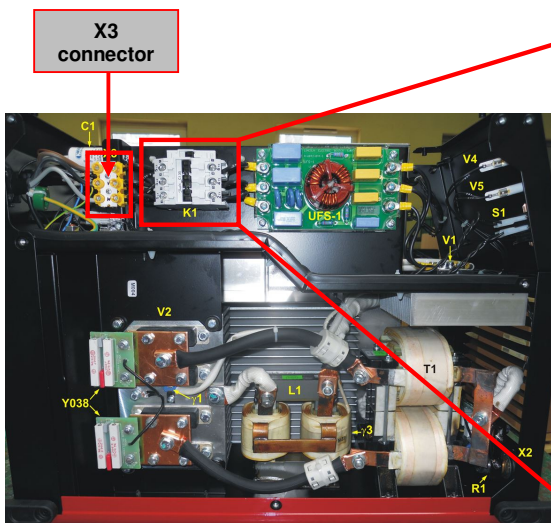

Figure 2
9. If 400 Vac are not present between n° 1 and n° 3 of terminal strip, check the presence of the 3 phases on connector X3, check the main switch S1 and the fuse F2 on the machine rear panel. See **Figure 2** for connector X3 location and **page 8** on this manual for correct fuse F2 location.